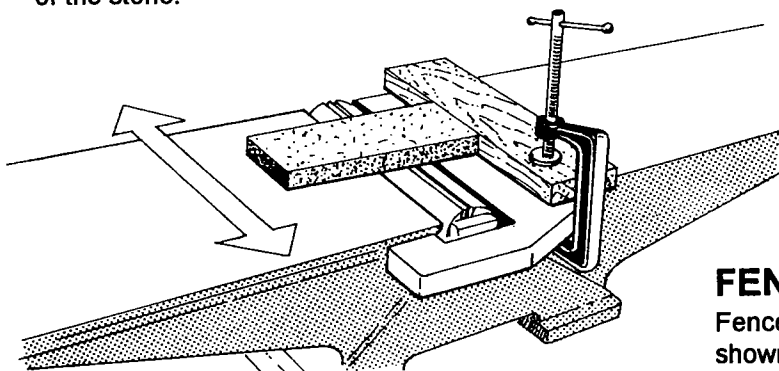

FIGURE 11
- Clamp a block of wood across the infeed table as shown in Figure 11 in order to block the end of a fine India stone or oilstone during the jointing operation. This helps to prevent kickback of the stone.
- Keeping hands well clear of the cutterhead, place the stone into position as shown in Figure 11, and slide the oilstone back and forth across both tables until the knives are lightly jointed.